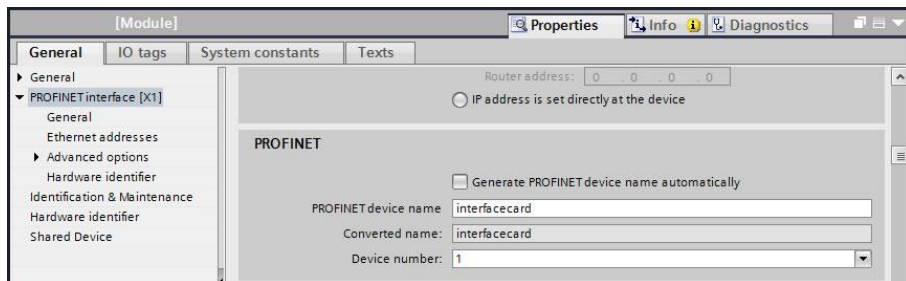

Figure 70: Assign Unique Device Name
2. Assign a unique **PROFINET device name** as shown in Figure 70.